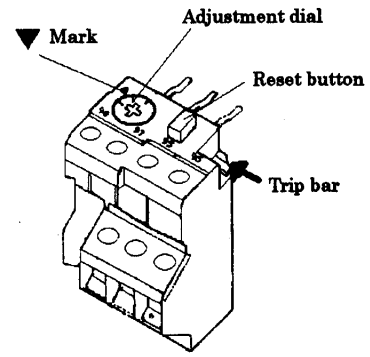

Fig. 3
- Turn the adjustment dial within the dial gradations so that the current loaded to the motor is at the ▼ mark (Fig. 3).
- By pushing the Trip bar toward the arrow, the sequence check will start (Fig.3).
- If the thermal overload relay operates, first remove the cause of failure such as overload, and then lightly press the reset button to reset it. (In this case, the thermal overload relay cannot be reset, if it is not cooled sufficiently.) (Fig.3)